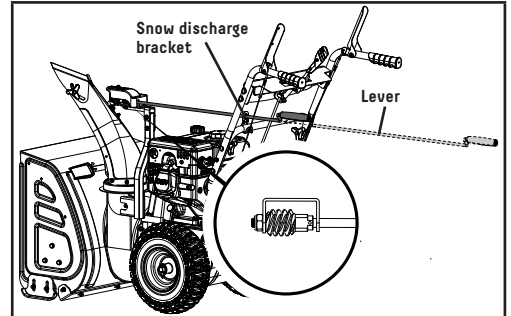

Figure 10A
2. Insert the lever through the discharge chute bracket on the lower handle, and then into the hole of the gear (Fig. 10A).